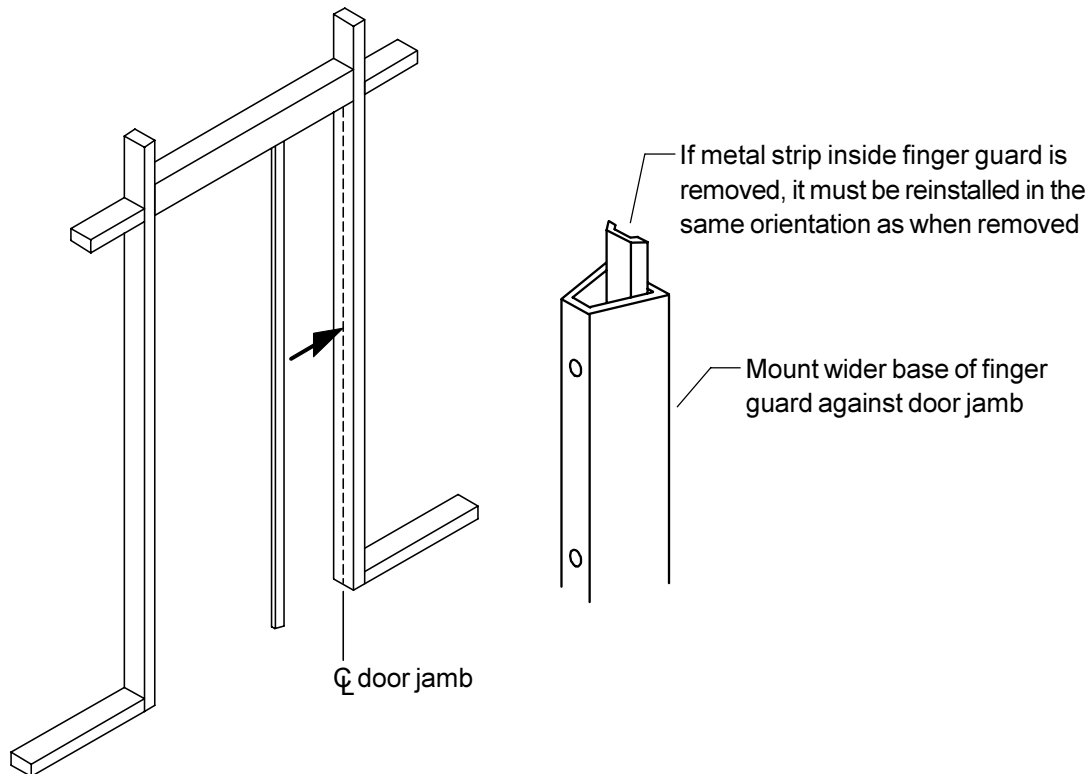

Figure 10-1
- 10.1. Scribe a line down the center of the pivot side door jamb (Figure 10-1).